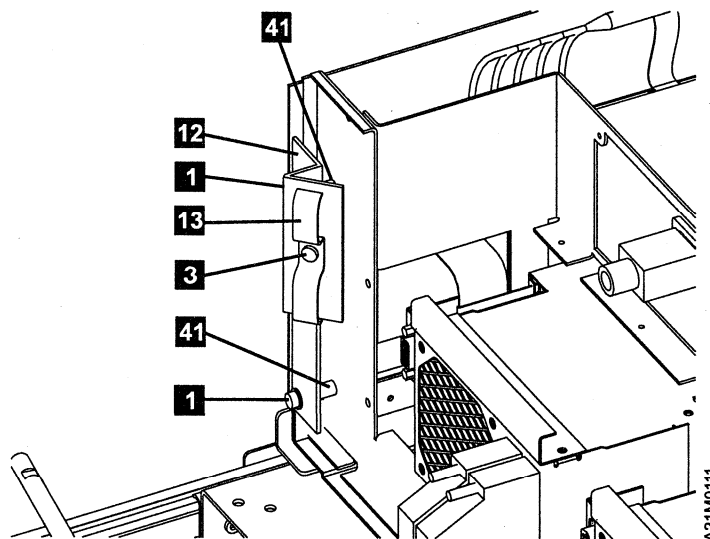

Figure 60. Attaching Cable Strain-Relief "Z" Bracket and Clamp
- \_\_\_ Step 8. See Figure 60 to install the cable strain-relief "Z" bracket **12** at the standoffs **41** at the rear of the library. Use two socket head screws **1**.